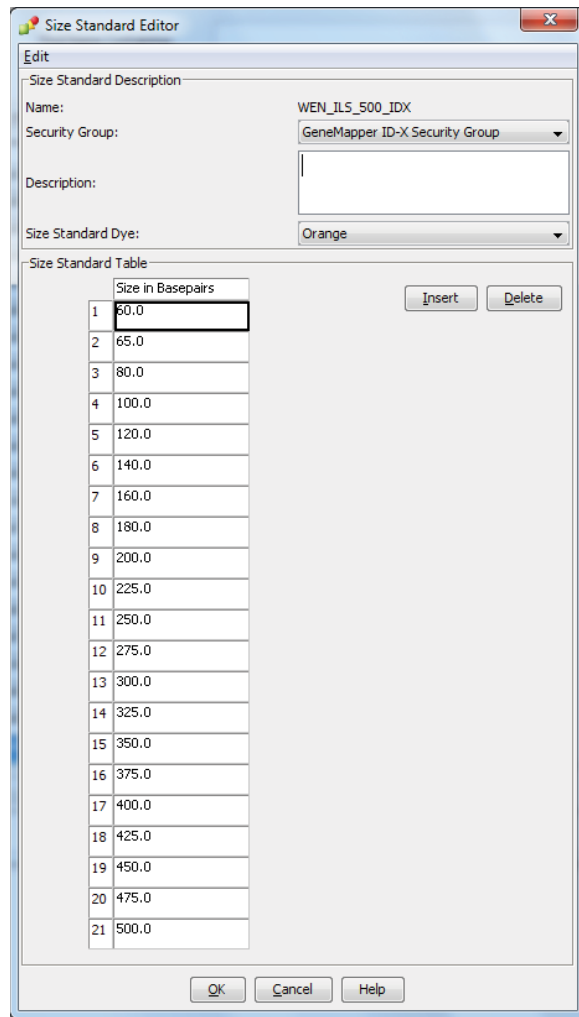

Figure 17. The GeneMapper® ID-X Size Standard Editor.
4. In the 'Size Standard Editor' window (Figure 17), select **GeneMapper ID-X Security Group** as the Security Group. This allows access for all users of the software. Other security groups may be used.